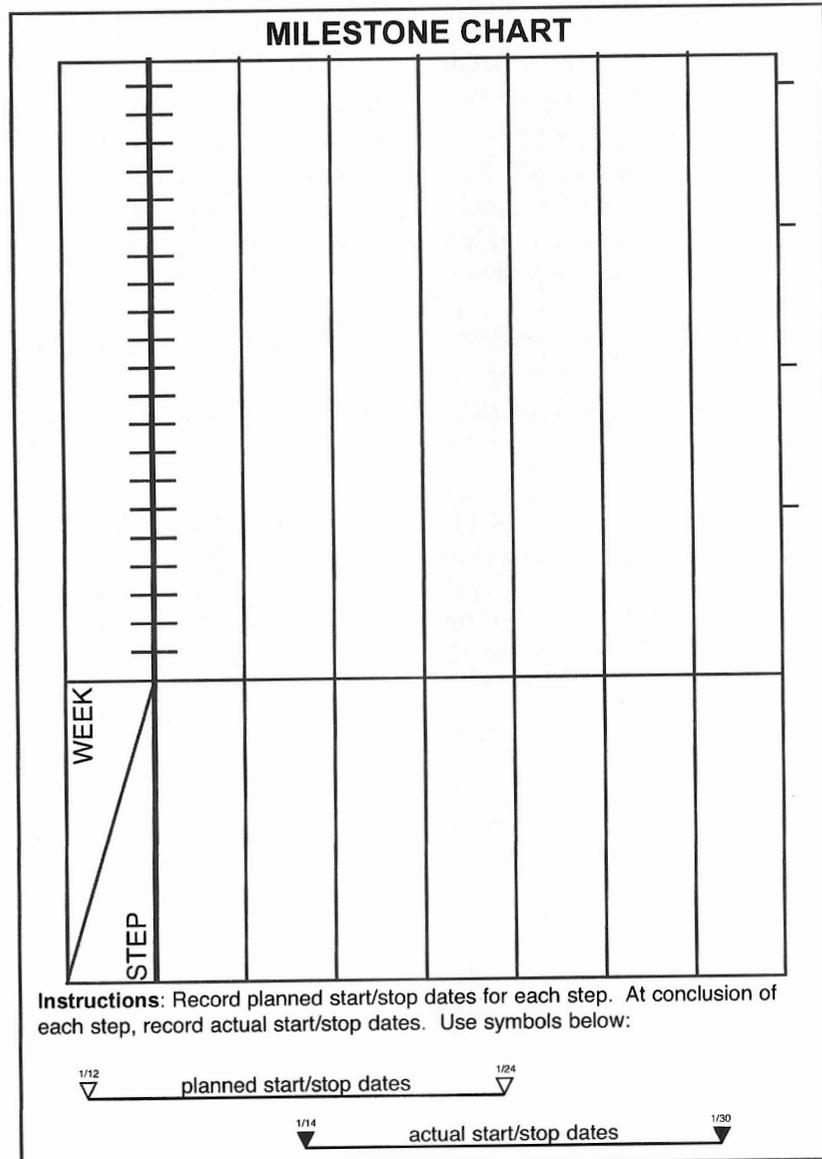

figure 18
### H. Now that the scope of the project and the theme has been finalized, prepare a milestone chart (figure 18).
- ☞ You may have your own way of creating a milestone chart. If not, figure 18 may serve as a model.